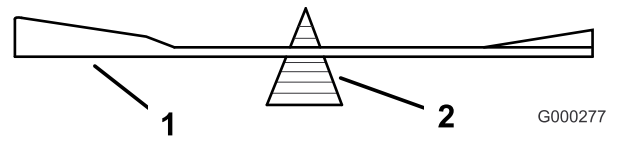

Figure 97
2. Check the balance of the blade by putting it on a blade balancer (Figure 97). If the blade stays in a horizontal position, the blade is balanced and can be used. If the blade is not balanced, file some metal off the end of